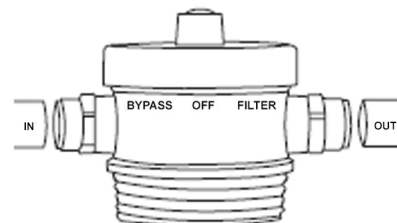

Figure 3
6. Referring to "Using Push-In Fittings" section, insert pipe into filter head fitting making sure end of pipe is firmly seated to backstop. Connect pipe from water supply to "IN" port. (See Figure 3.)